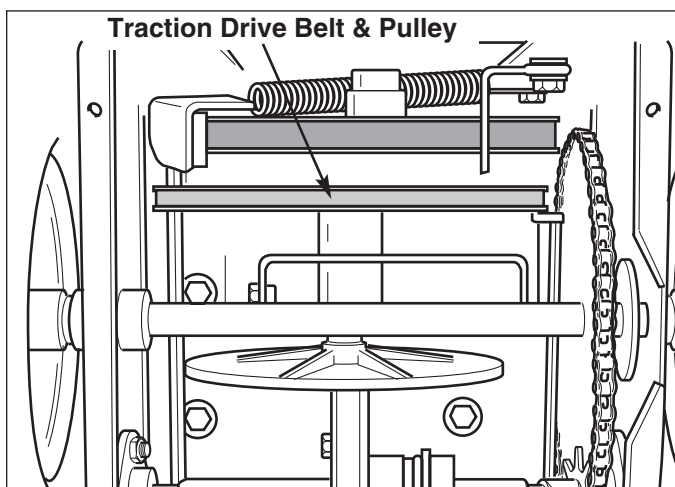

Figure 28. Traction Drive Pulley (Lower Cover Removed For Clarity)
4. Slip the belt off from around the traction pulley (See Figure 28) and pull the belt out of the unit between the auger pulley and the traction pulley (the lower cover need not be removed for this step).